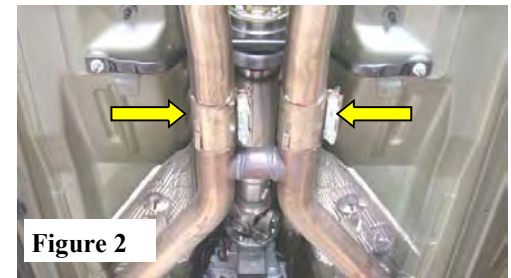
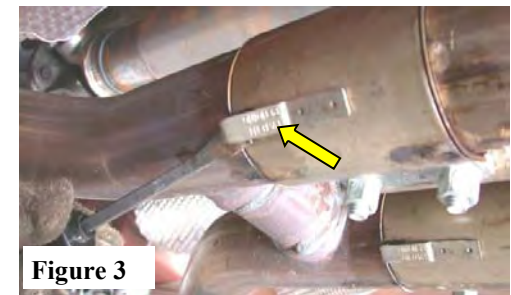

Figure 2
Figure 3
2. Loosen the (2) Band Clamps shown located just behind the H-pipe. **Do not discard band clamps as they will be used for installation of your new X-Pipe.** (See Fig. 2)
3. Use a stand to support the (2) over-axle pipes.
4. Beginning with the left (driver) side, using a flat blade screwdriver, pull the clip to disengage it from the pipe. Repeat for the right-side. (See Fig. 3)